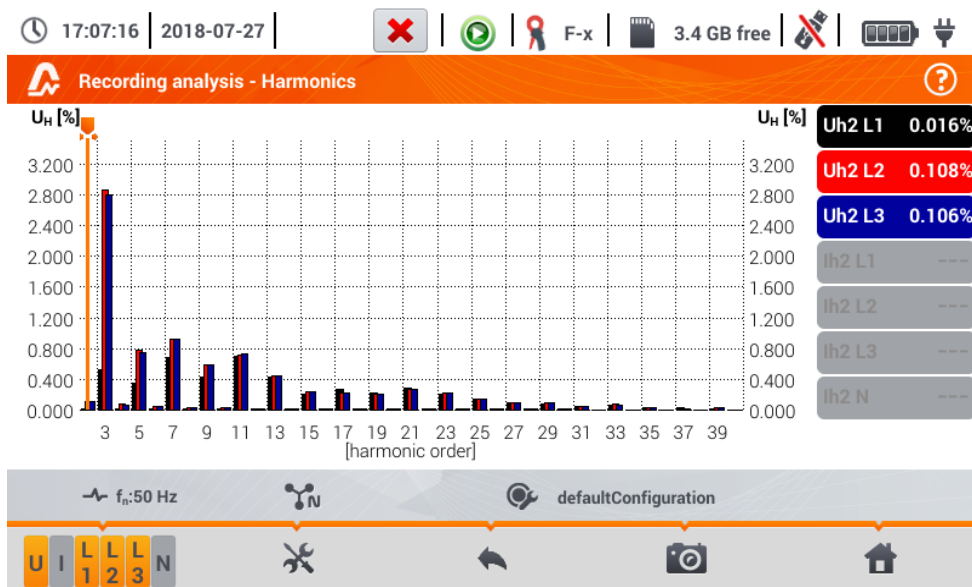

Fig. 5.23. Live mode - harmonics - bar graph
If in **section 5.8** step ③ the  icon has been selected, the screen shown in Fig. 5.23 will appear.